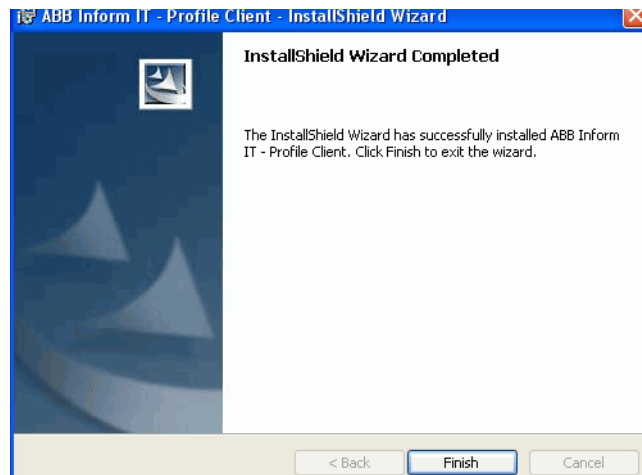

Figure 6. Install Completed
3. When the InstallShield Wizard Completed message is displayed, click **Finish**, Figure 6.